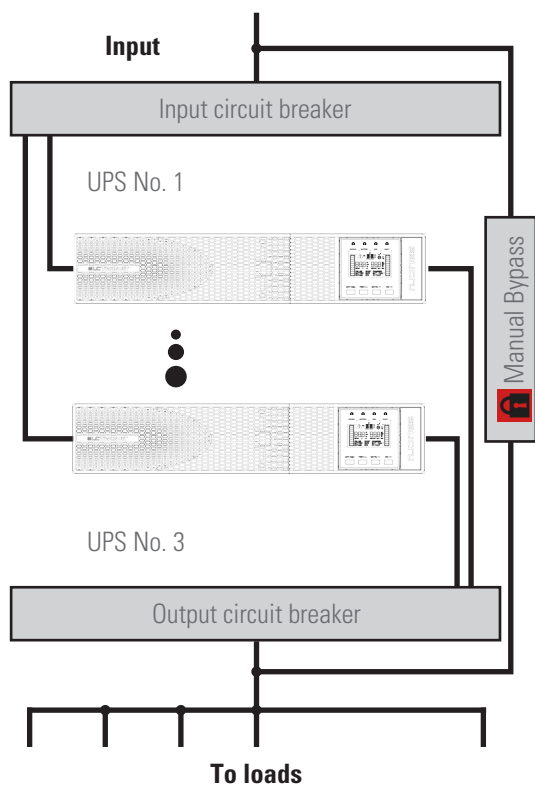

Fig. 18. Parallel installation of two 4 to 10 kVA UPSs with protections panel and manual bypass.
- When installing systems in parallel, it is necessary to provide them with a board equipped with individual input and output protections, as well as a manual bypass with mechanical locking, see Fig. 18.
- In Fig. 18, a distribution board with manual bypass is represented conceptually for a parallel system, representative for a single device, with the number of switches adapted.